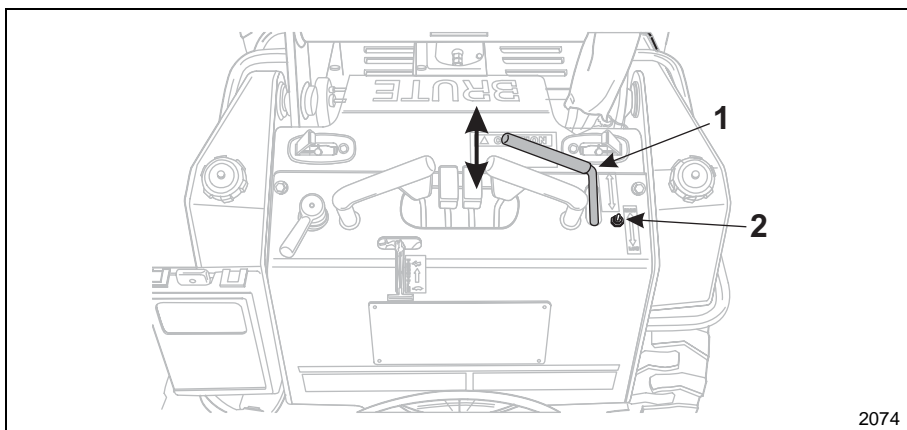

Figure 1-8 Auxiliary Attachment Controls
1. Move the engine throttle to the full speed setting and set “high-low” switch (Item 2, Figure 1-8) to the High setting.